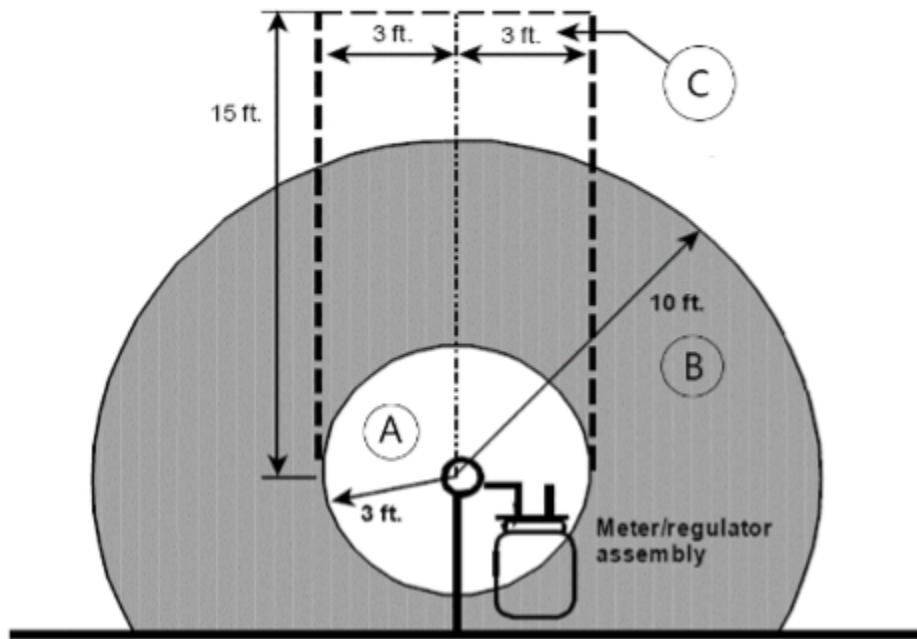

Figure 20. Natural gas regulator vent clearances
When determining where to terminate the vent to outdoors there are many clearance requirements that must be considered, such as building openings or exhaust vents. Figure 20 summarizes the clearance requirements as listed in the gas code for natural gas regulator vents. The diagram displays these requirements as they would relate to the vent outlet of a service regulator but these same clearances would apply to the outside termination of a vent from an inside the building regulator.
- Figure 20. “Natural gas regulator vent clearances” by Camosun College is licensed under a CC BY-NC-SA licence (<https://creativecommons.org/licenses/by-nc-sa/4.0/deed.en>).